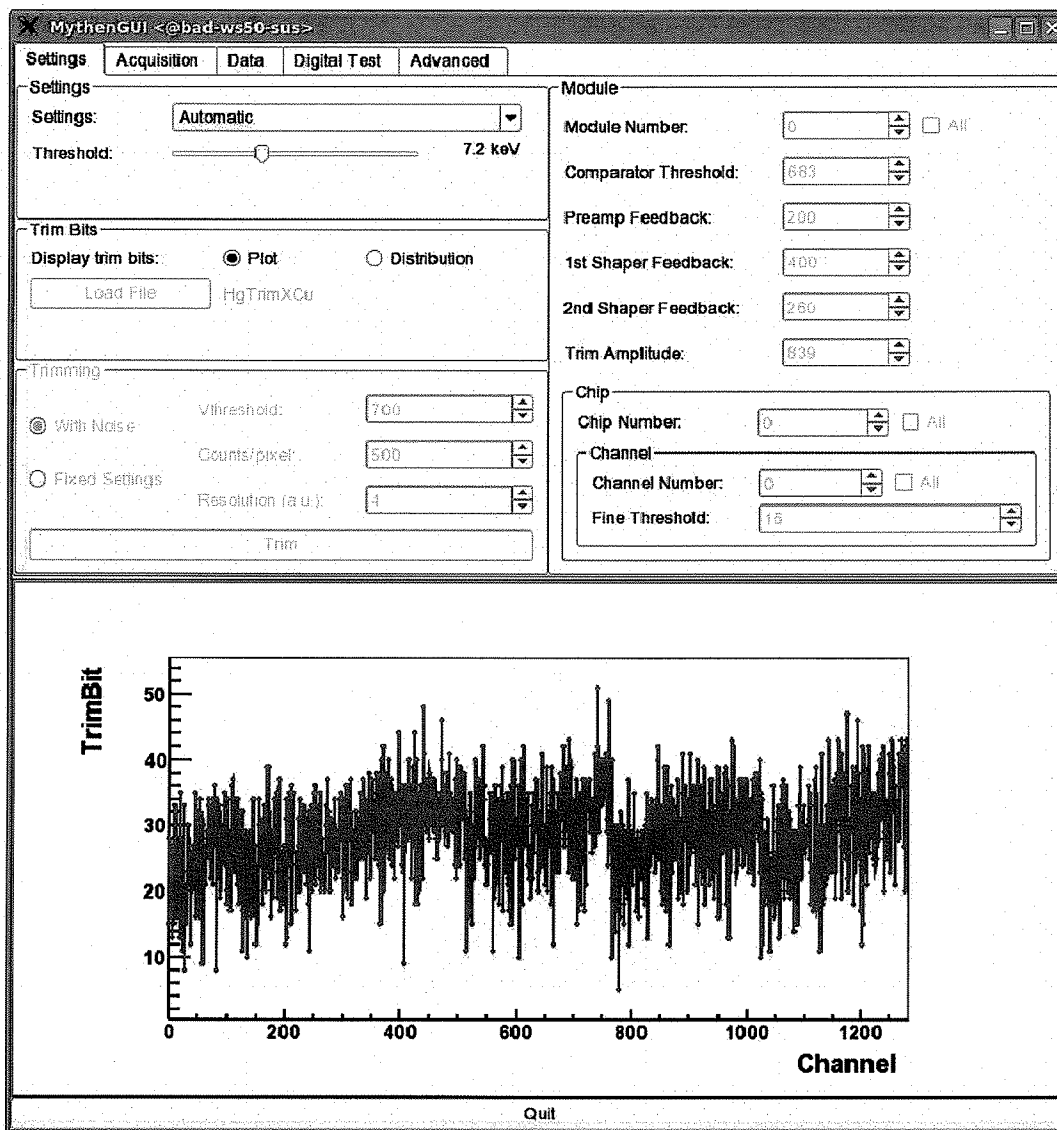
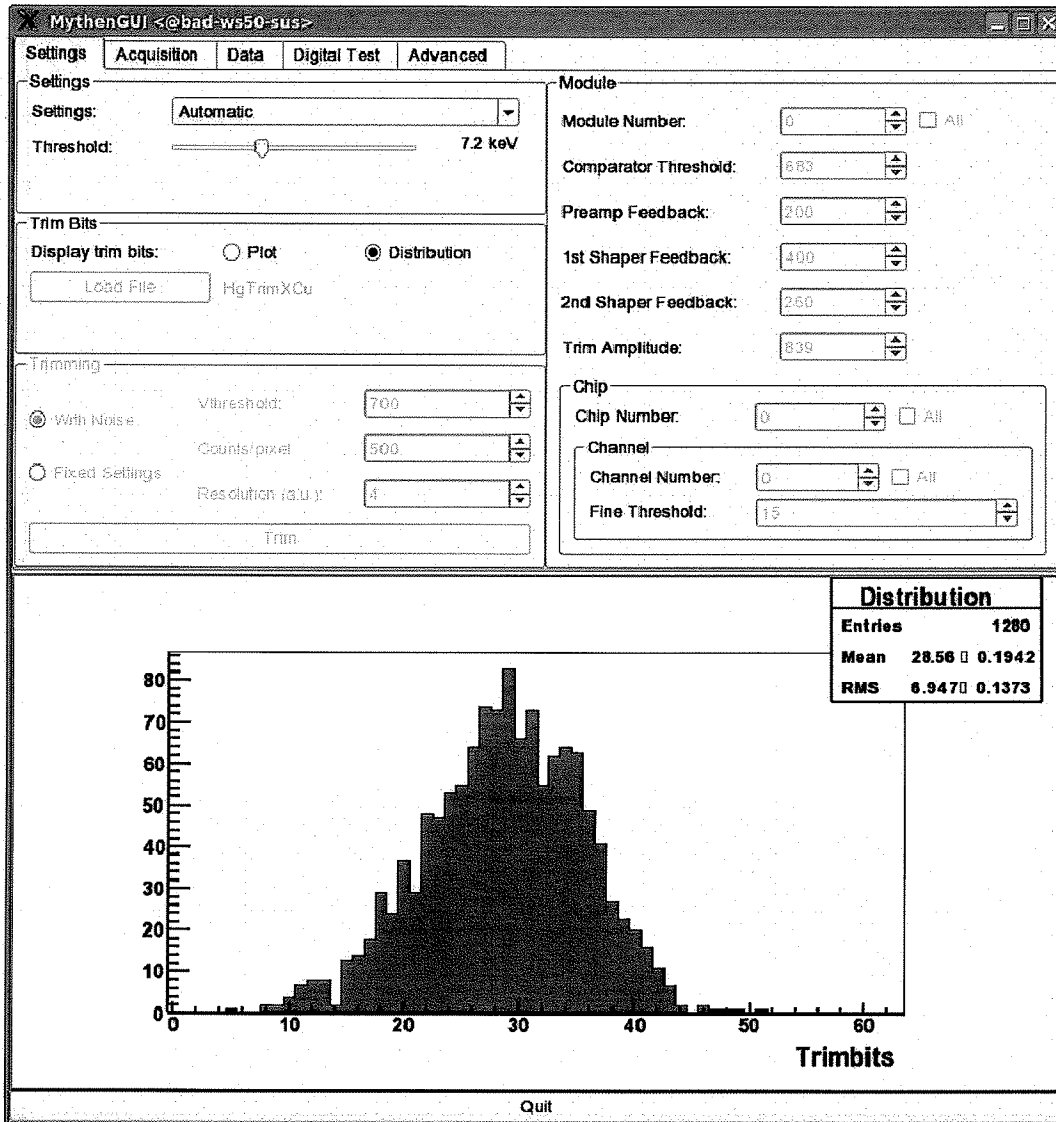

Figure 5 The settings tab showing the trimbits per channel
Figure 6 The initialization tab showing the trimbits distribution
- “Display trimbits”: Shows the current trimbit values either per channel (“Plot”, Figure 5) or as distribution (“Distribution”, Figure 6).